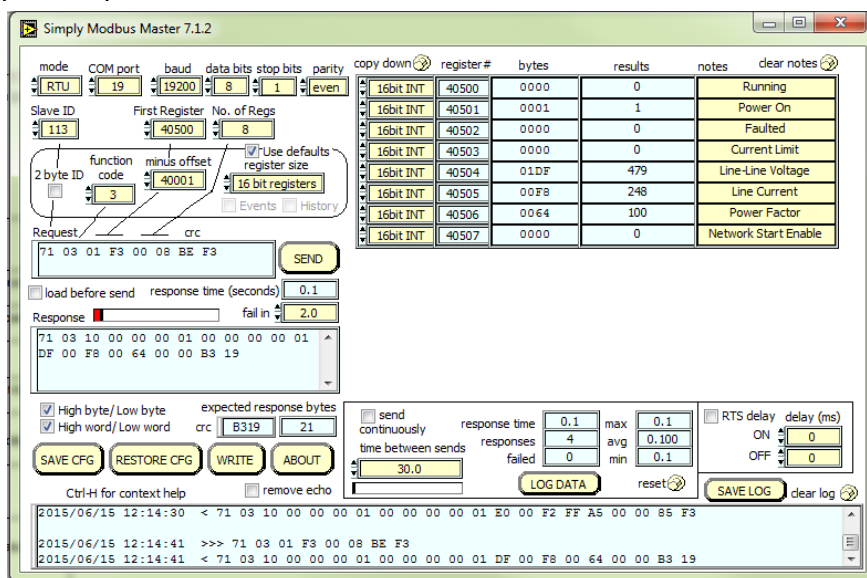

Figure 27: Example Setup Instructions
- Next, configure the fields in Figure 27 shown below. These are again the default settings of the PQconnect COM port.